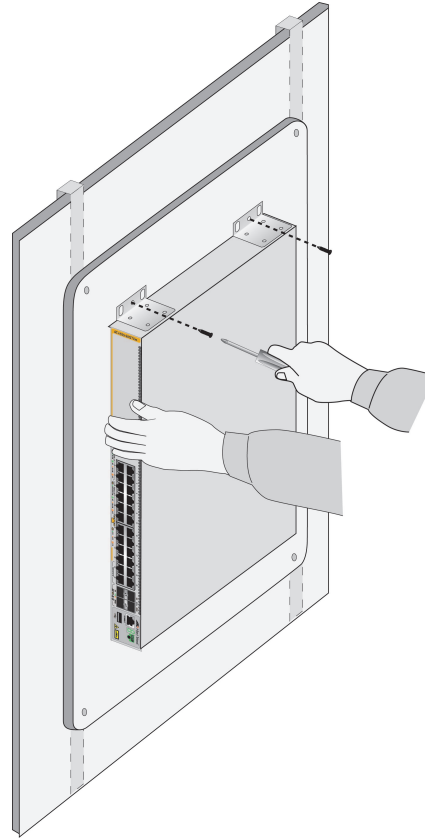
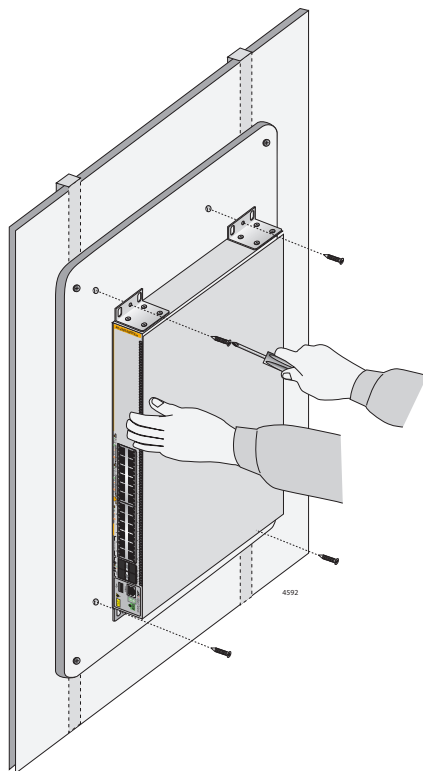

Figure 48. Securing the x530-28GTXm or x530-28GSX Switch to the Plywood Base
Figure 49. Securing the x530-10GHXm, x530-18GHXm, x530-28GPXm, x530-52GTXm or x530-52GPXm Switch to the Plywood Base
3. After attaching the brackets, have another person hold the switch on the plywood base on the wall while you secure it with the M4x32.3mm screws included with the switch. Refer to Figure 48 on page 125 for the x530-28GTXm or x530-28GSXswitch. Refer to Figure 49 on page 126 for the x530-10GHXm, x530-18GHXm, x530-28GPXm, x530-52GTXm or x530-52GPXm switch.